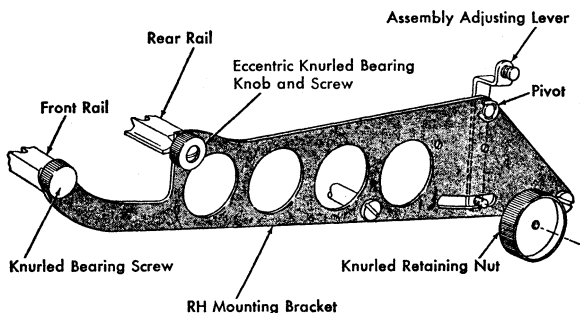

Figure 2. Mounting Bracket Adjustments
1. AUXILIARY CARRIAGE ALIGNMENT. The upper frame of the auxiliary carriage is aligned by means of the adjusting levers on both mounting brackets. Adjust so the auxiliary carriage is not jammed in its guides on its travel from extreme right to extreme left position (Figure 2).
2. ECCENTRIC KNURLED BEARING KNOB AND SCREW. Adjust to raise or lower the Hektowriter attachment so that the typed characters are centered on the ribbon at both ends of the carriage (Figure 2). Characters must have correct "even top and bottom" after making this adjustment.